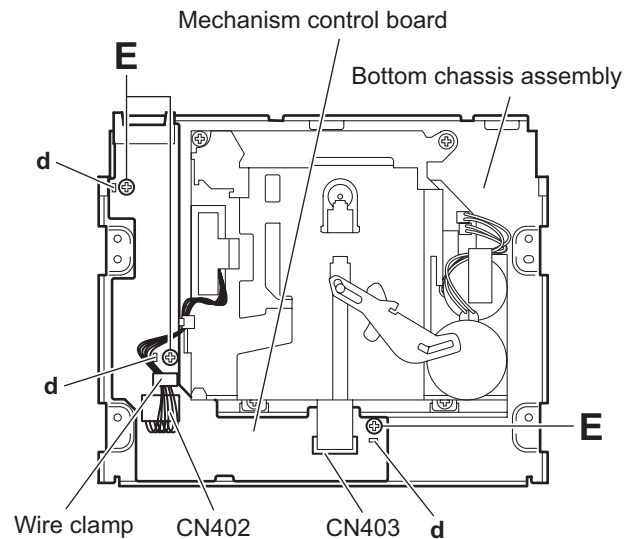

Fig.6
3.1.5 Removing the mechanism control board (See Fig.6)